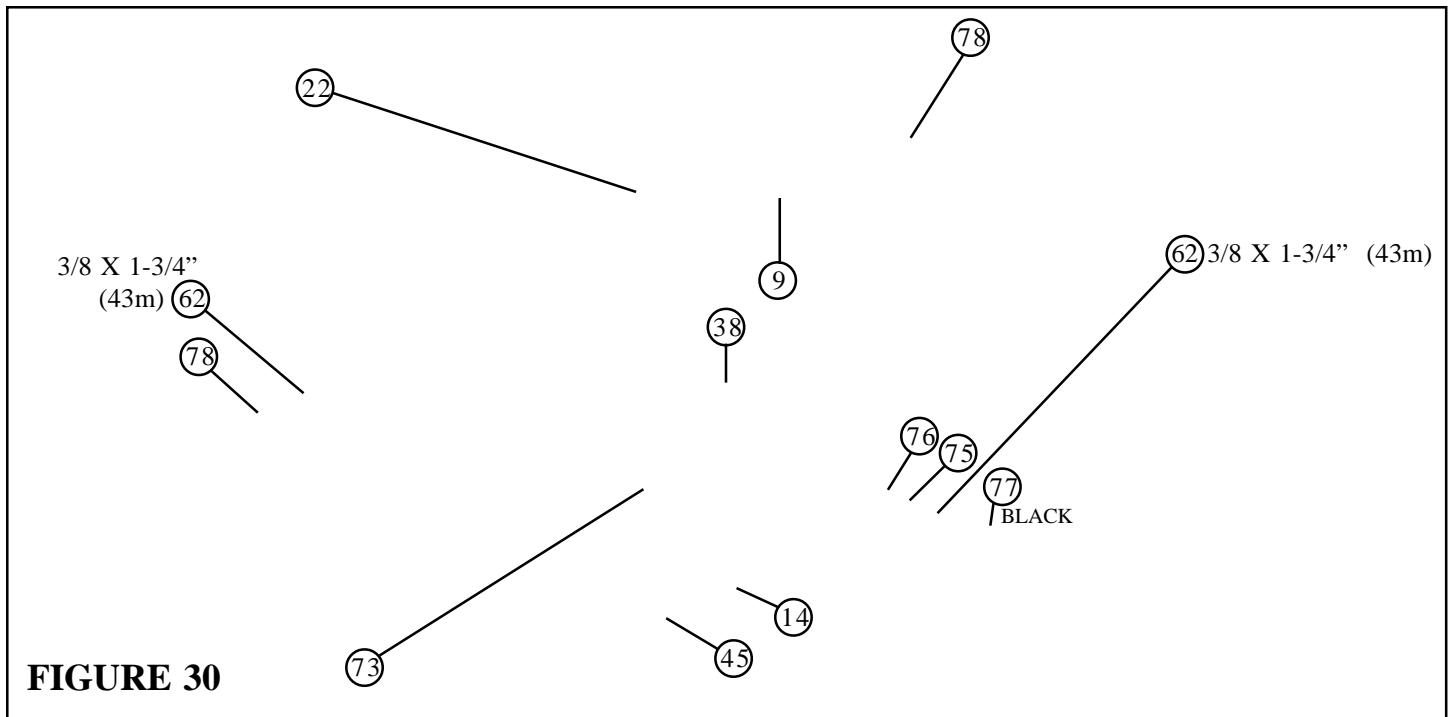

FIGURE 30
- Route the LEG CABLE (45) through the SWIVEL (14) and assemble two 4-1/2" PULLEYS (38) to the SWIVEL (14) using four BLACK RH CAPS (77), two 3/8 X 1-3/4" BOLTS (62), four 3/8" SAE WASHERS (75), four 3/8" RH WASHERS (76) and two 3/8" LOW HEIGHT LOCK NUTS (73) as shown in FIGURE 30.
- Route the LEG CABLE (45) around one 4-1/2" PULLEY (38) and assemble the PULLEY (38) and the PULLEY GUARD (22) to the PIVOT ARM (9) using two RH CAPS (78), one 3/8 X 1-3/4" BOLT (62), two 3/8" SAE WASHERS (75), two 3/8" RH WASHERS (76) and one 3/8" LOW HEIGHT LOCK NUT (73) as shown in FIGURE 30.